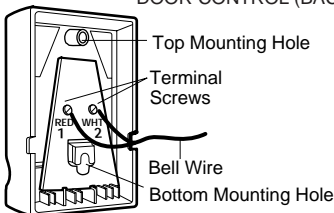

Figure 4 REMOVE COVER
- Remove white cover by gently pushing both thumbs against upper corners of cover on back side of door control (Fig. 4). Fasten with 6ABx1-1/4" self-tapping screws (standard installation) or 6-32x1" machine screws (into gang box) as follows: